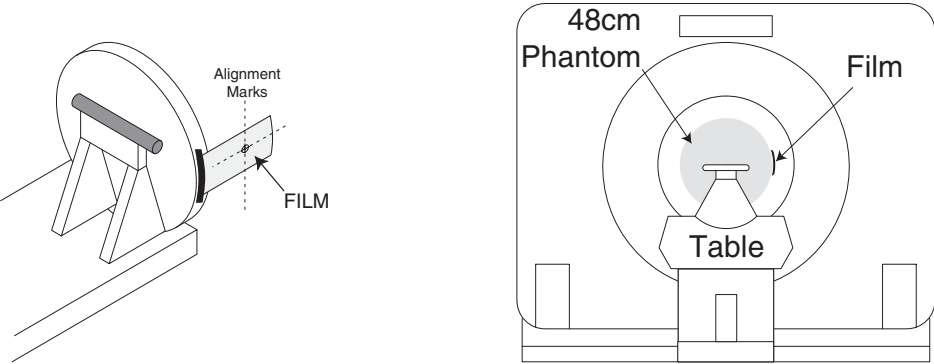

Figure 11-6 48 cm Phantom and Film on Table
- 1.) Get the system’s phantom holder and attach the 48 cm phantom to it. (see Figure 11-6).
Note: Only the film should be projecting into the Gantry bore when complete. The phantom only positions and holds the film in the gantry bore (see Figure 11-6).